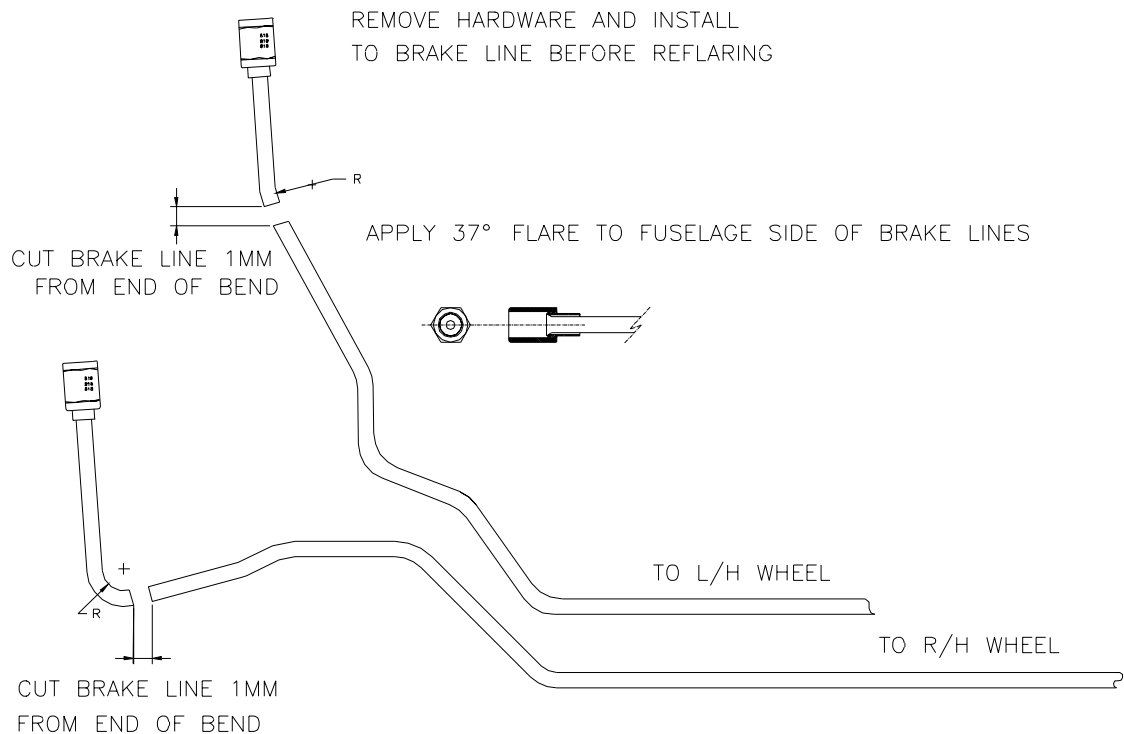

Figure 7
10.24 Cut the ends of the hard-line as shown in figure 7 and flare (37 degree single flare to MS 33584). Use the original nut and sleeve. Make sure that the nut and sleeve are on the tubing in the proper orientation during the flaring operation. Inspect flare for cracks. Touch up any areas of the line bared of paint.